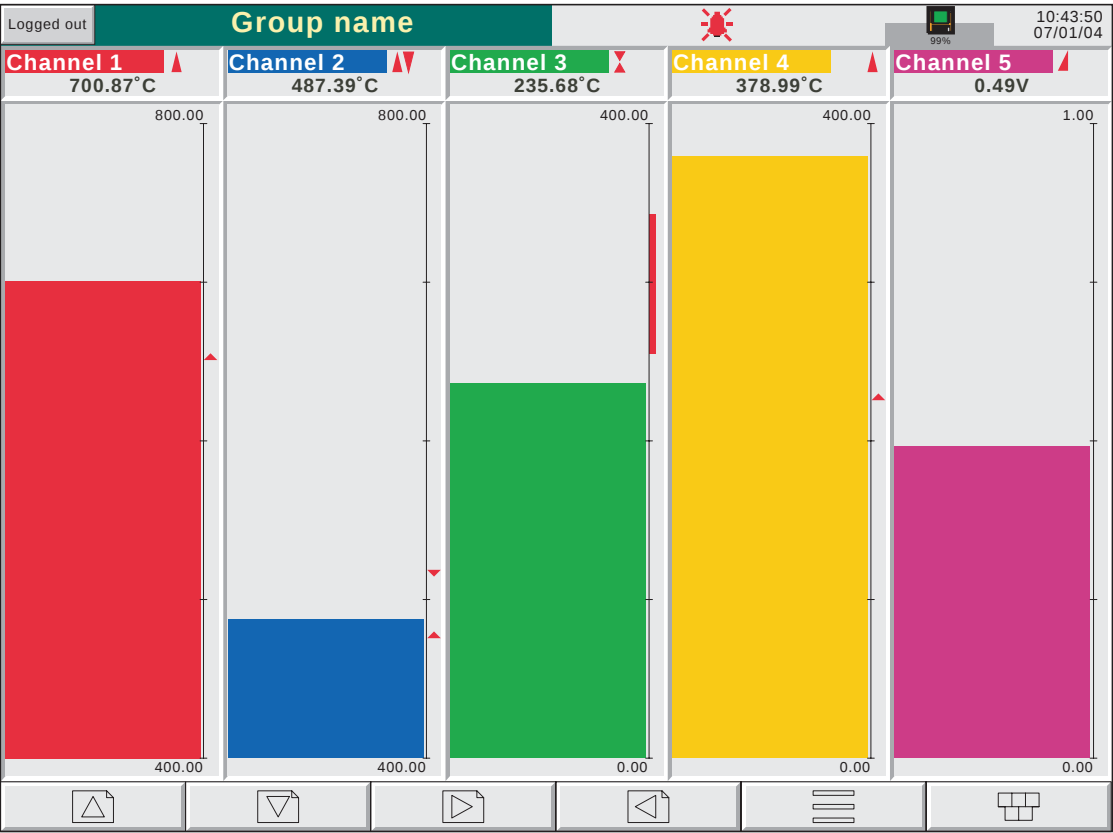
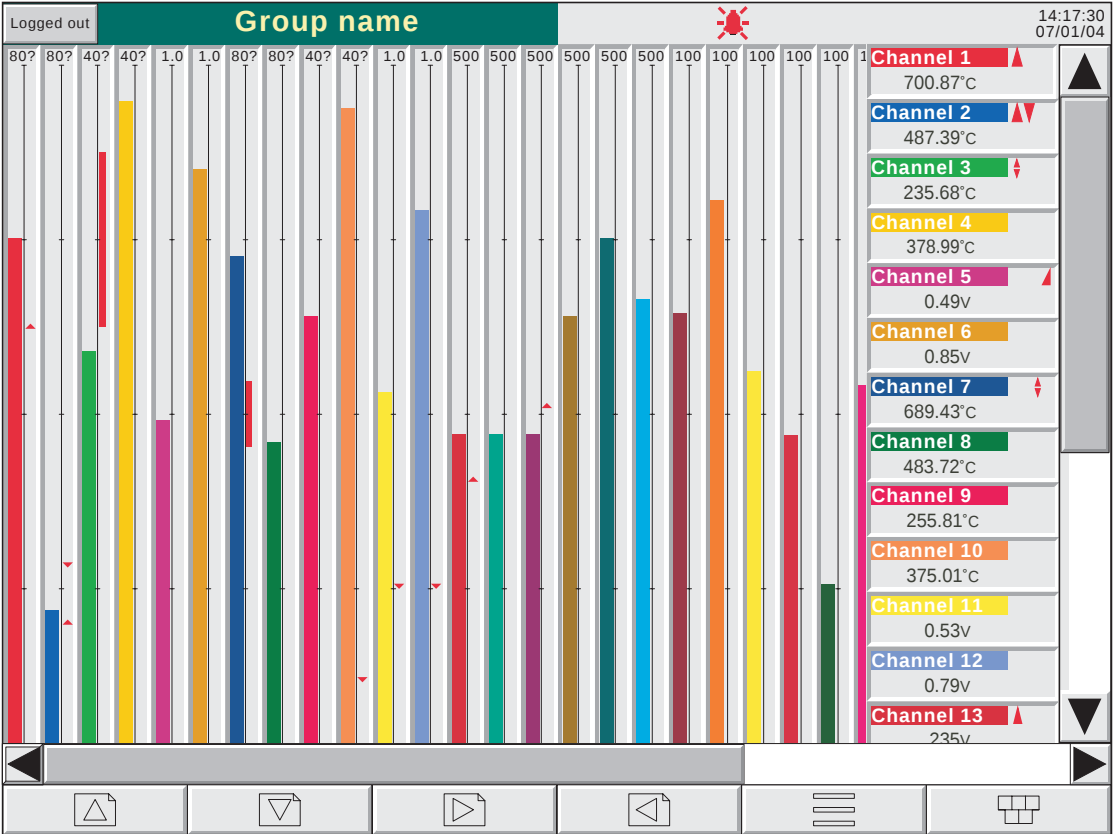

Figure 3.4.3a Vertical bargraph display (1 to 6 channels)
Figure 3.4.3b Vertical bargraph display (more than 6 channels)
Entered from Horizontal Trend mode by means of the down arrow key, or selected from the Root Menu 'Goto View' key, this display mode shows the Process Variable (PV) values as vertical bars with faceplates containing digital values and alarm data. There are two versions, one with faceplates above the bars (1 to 6 channels - figure 3.4.3a); the other (with faceplates at the right hand edge of the display - figure 3.4.3b) is used where there are more than six channels.
See figure 3.4.3a.
See figure 3.4.3b.
As the number of PVs increases, the bars get narrower. As the bars get narrower, so the scale values become truncated as shown in figure 3.4.3b. The bars have a set minimum width, and if the total number of points in the group cannot be displayed within the width of the screen, a horizontal scroll bar appears, allowing 'hidden' bars to be viewed. Similarly, the faceplates reduce in height to a minimum readable height. If there are more point faceplates than can be accommodated within the height of the screen, a vertical scroll bar appears, allowing hidden faceplates to be displayed as required.